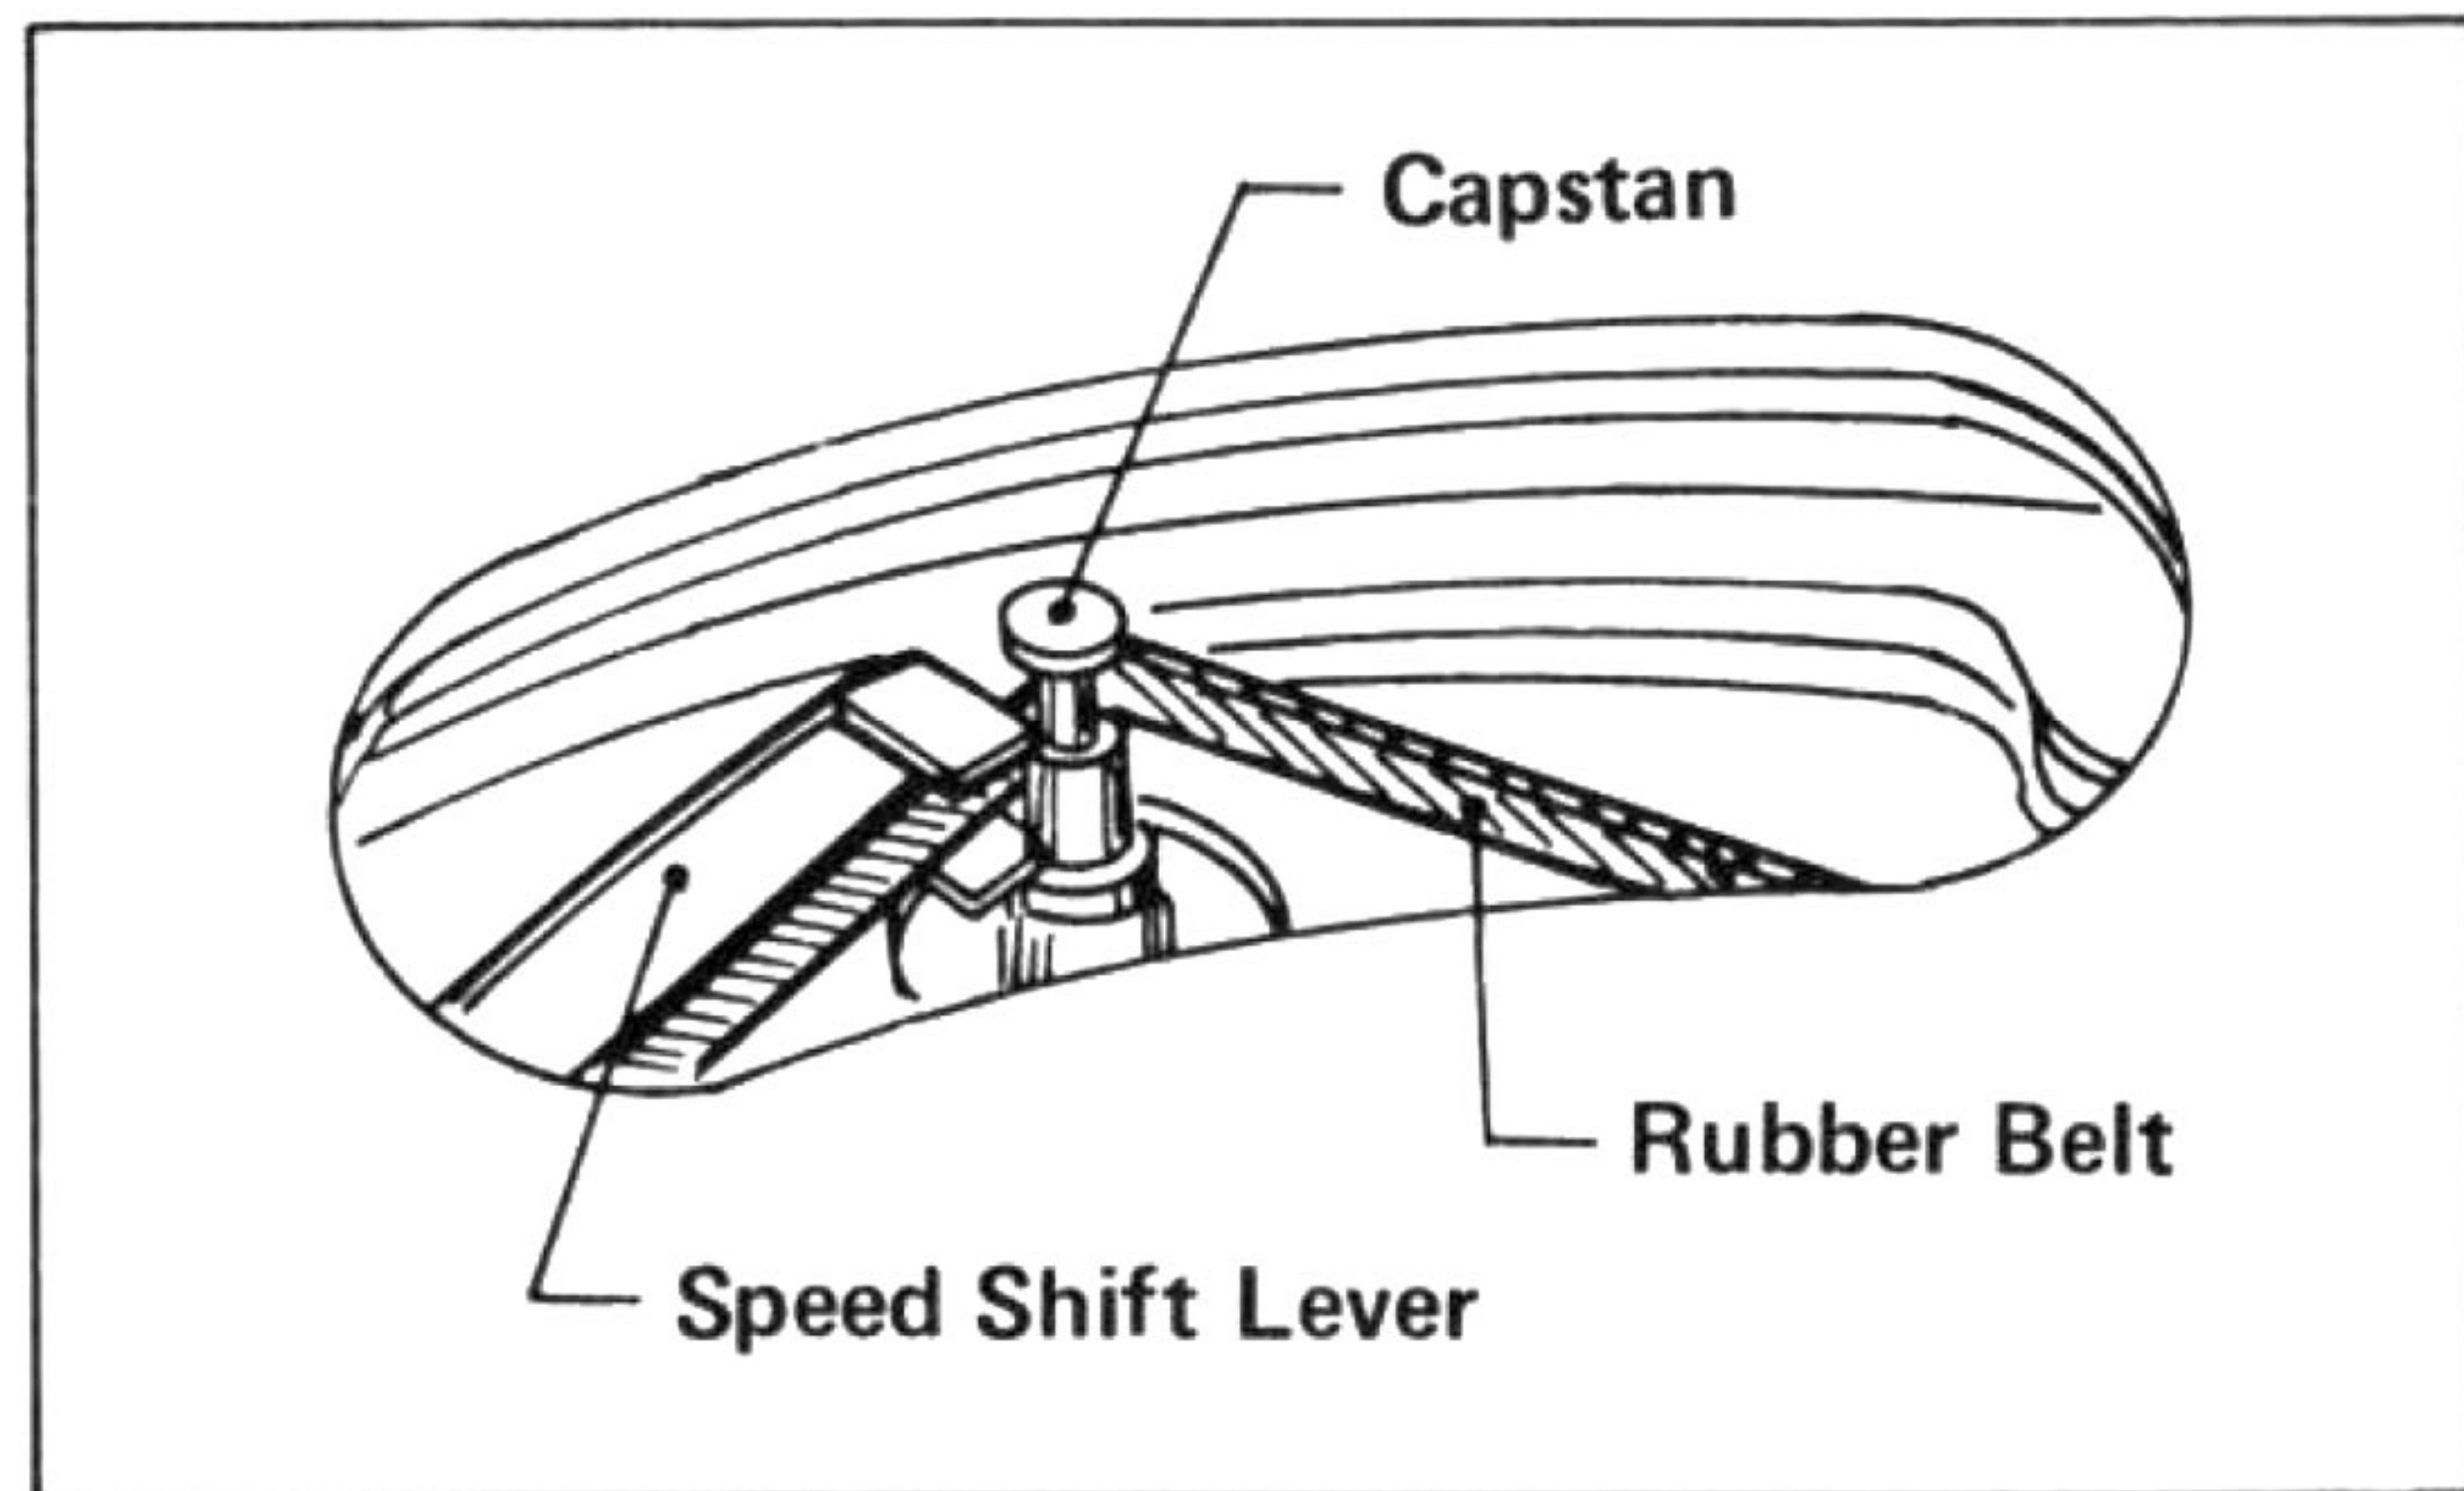

Fig. 1
2. The turntable platter is packed separately from the wooden base. Carefully unpack it and mount it on the center shaft. Place the rubber mat on the platter after the drive belt is set on the capstan. (Fig. 1)